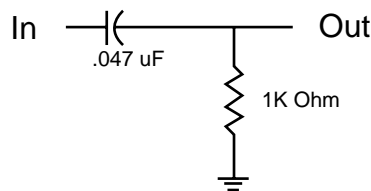

Figure 4. Differentiator Circuit
**Procedure:** Load each channel to 1 ohm. Inject a 1 kHz differentiated (or 10% duty cycle) square wave. See figure 4. Increase output level until current limit occurs. Current limit should occur at 39  $\pm$ 6 Amps (39 Vpk). Observe clean (no oscillations) current clipping.